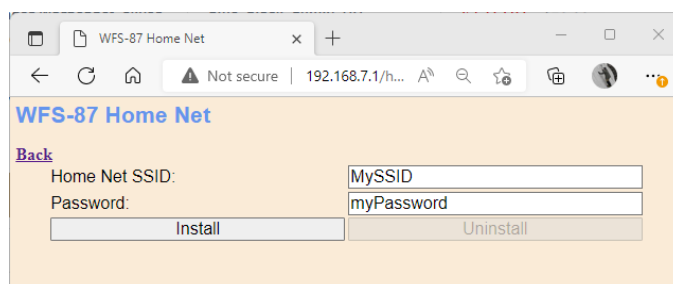

Figure 25 The Home Net page of the WFS-87. Enter the Correct SSID of your Router and its Password
- (3) Now hit Home Net to display the Home Net page. Then enter the SSID of your router and the Password as in Figure 25. You must not connect to the 5GHz Wi-Fi Access Point or the Guest Network as the modules do not support that. Also make sure you don't add any spaces at the end of your password and that the case of all the characters is correct in both the SSID and Password. When you are sure everything is correct, tap the Install button.